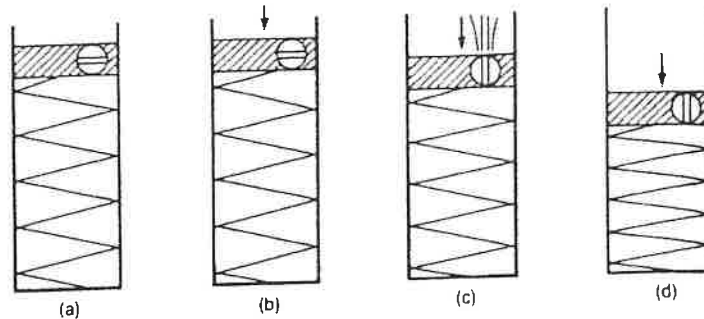

Figure 3: Consolidation analogy model
- (a) Explain one-dimensional consolidation behavior with particular reference to the effective stress principle using the spring analogy model shown in **Figure 3** given below. (5 marks)
- (b) What type of tests and equipment do you recommend to determine the shear strength parameters for loading shown in **Figure 3** for (b)? You may assume the spring in the **Figure 3** represents a normally consolidated clay. Note that the valve is closed in (b) and open in (d). Also, draw typical **shear strength envelope** for the loading in (b).